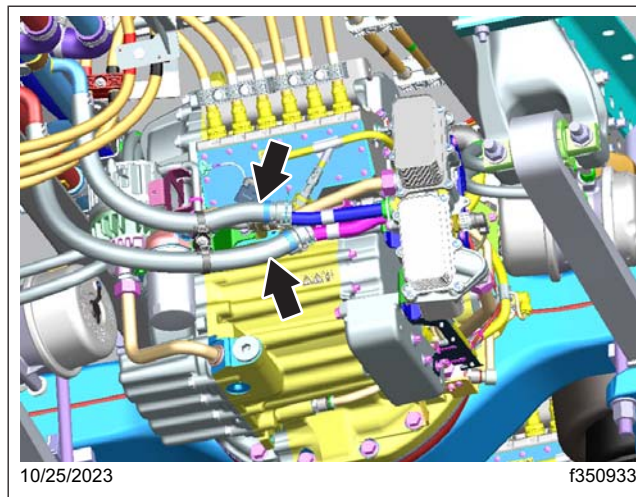

Fig. 9, Location of the Coolant Lines
20. Disconnect the coolant lines, shown in **Fig. 9**, from the e-Axle, and let the fluid drain out.
67. Connect the coolant lines, shown in **Fig. 9**,(Page 11) to the e-Axle.